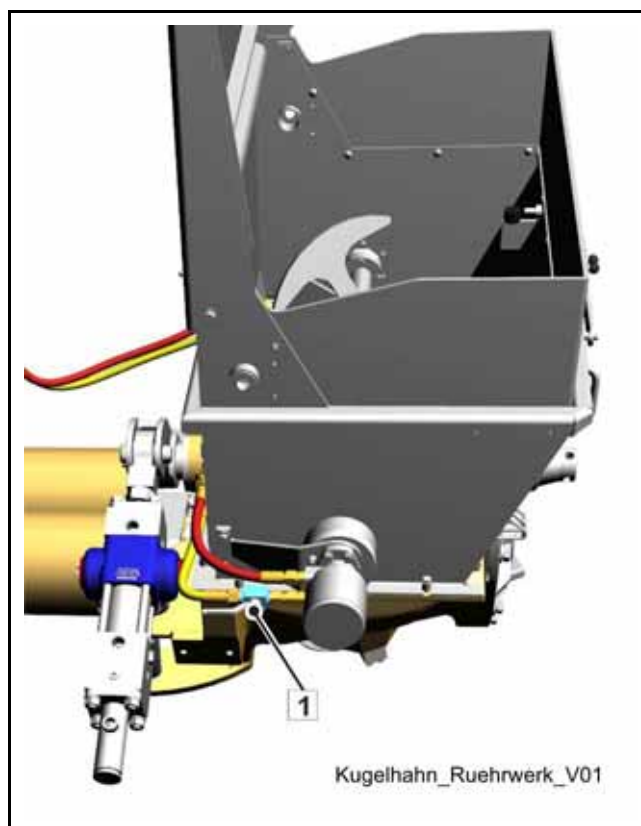

Fig. 271
- To do this, close the ball valve (1) (**Fig. 271**) on the agitator motor.